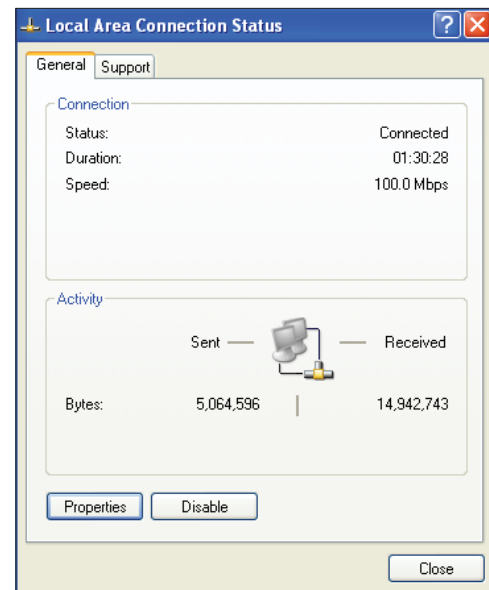

Figure 5: Local Area Connection Status Window
- 3.) In the *Network Connections Window*, double-click the **Local Area Connections** entry. The *Local Area Connection Status Window* will appear (**Figure 5**).
- 4.) As shown in **Figure 5**, click **<Properties>** in the lower left of the window. The *Local Area Connection Properties Window* will appear.